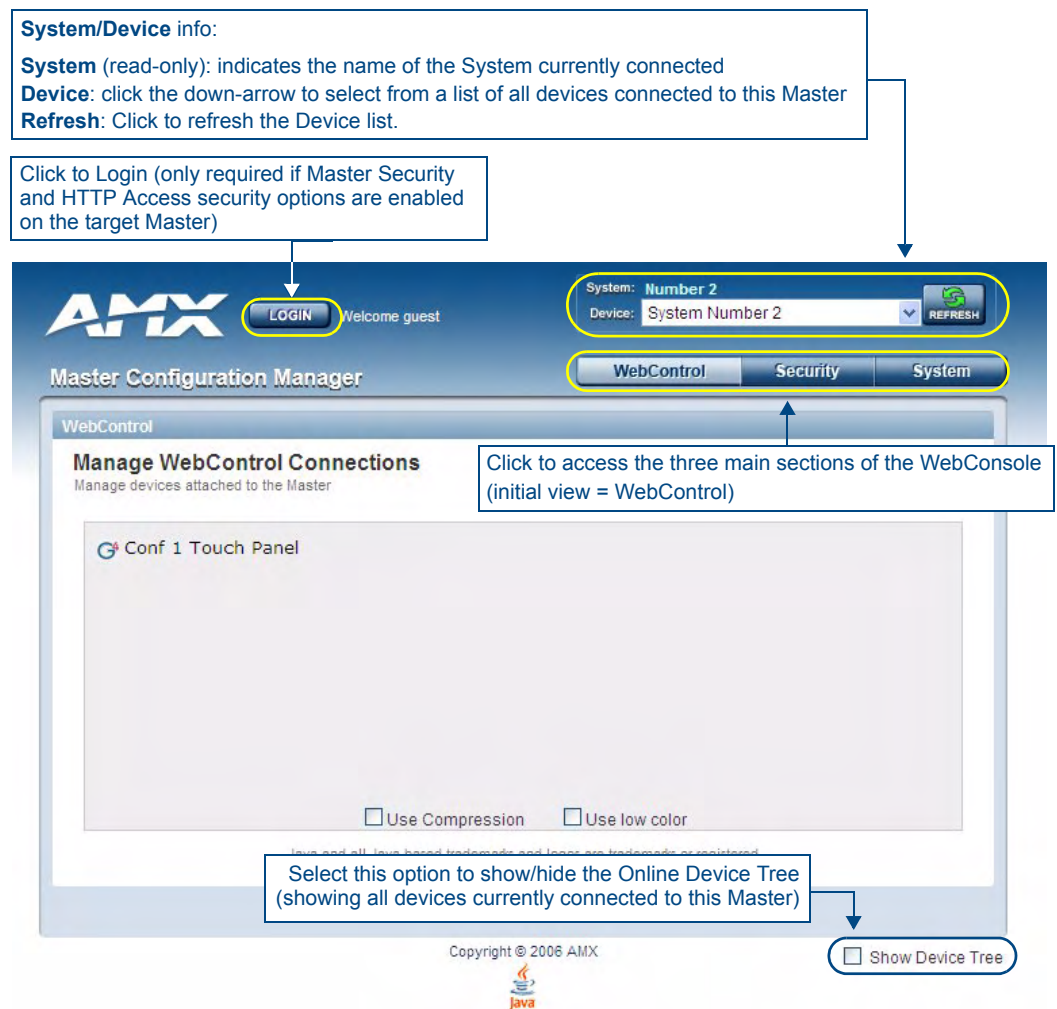

FIG. 50 Master Configuration Manager - WebControl Page (initial view)
- c. Press **Enter** to connect to the Master and open the WebConsole. The initial view is the *WebControl* page, as shown in FIG. 50.